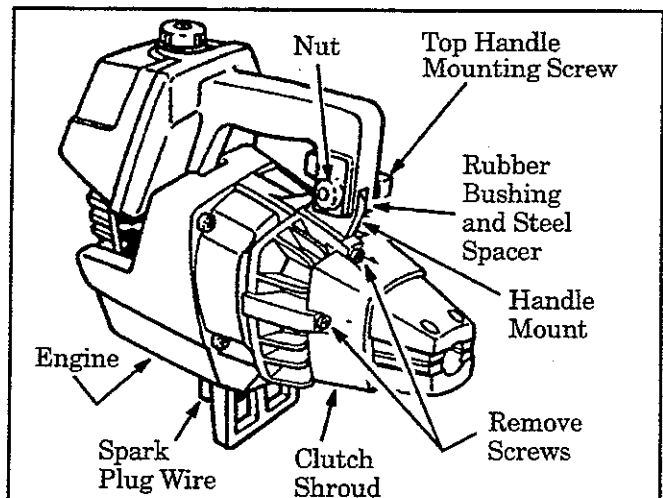

Figure 31
1. Disconnect spark plug wire. Figure 31 .
2. Remove the four clutch shroud screws with the small hex wrench provided. Figure 31 .
3. Remove the top handle mounting screw and nut, and remove the steel spacer from the rubber bushing on the handle mount. Figure 31 .
4. Separate clutch shroud from engine. Figure 31 .